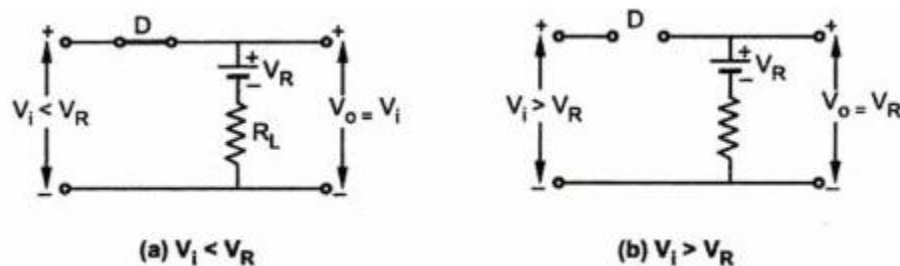

Fig. 1.51 Operation of Clipping above V_R
- When V_i is less than V_R , the diode becomes forward biased and the circuit can be reduced to as shown in the Fig. 1.51 (a).
- When V_i is greater than V_R , the diode is reverse biased and circuit gets reduced to, as shown in the Fig. 1.51 (b).